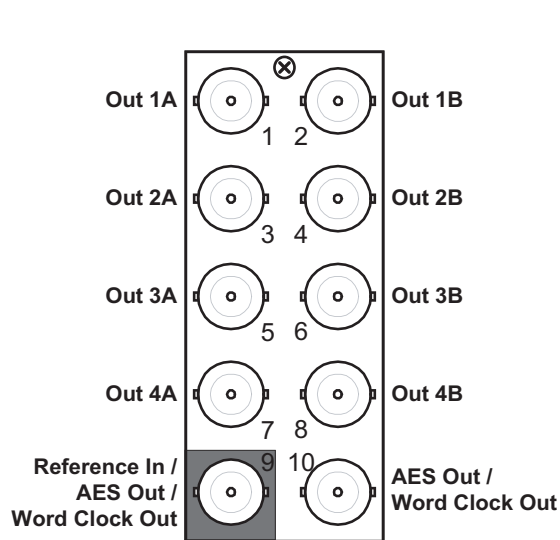

Figure 7 Cable Connections for the 8310AR-030 and 8320AR-030 Rear Modules
Each **8310AR-030** rear module occupies one slot and accommodates one card. This rear module provides eight video outputs. Depending on your configuration, there can be a reference input or an AES output on BNC 9, and an AES output or a Word Clock output on BNC 10. (**Figure 7**)
- **8320AR-030** Full Rear Module — Each rear module occupies two slots and accommodates one card. This rear module provides eight video outputs. Depending on your configuration, there can be a reference input or an AES output on BNC 9, and an AES output or a Word Clock output on BNC 10. (**Figure 7**)